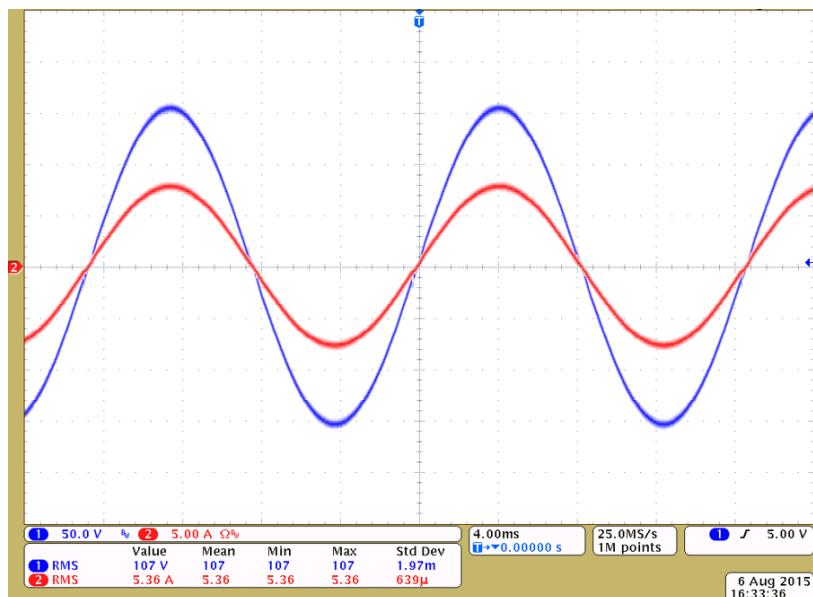

Figure 34. Output Voltage Regulated With Linear Load in Build 3
- Observe a regulated voltage at the output, which will be similar to as shown in Figure 34.
Note in Figure 34 the output is being regulated at full power for this design, and this is not be the exact power level one will reach following the previous steps. Figure 34 is shown as an illustration of full power operation which is at maximum power level.